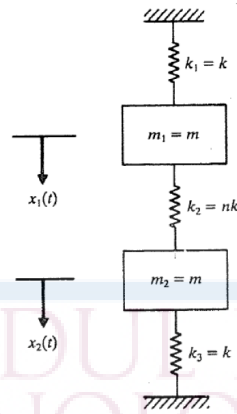

Fig. 3
18. Find the natural frequencies and mode shapes of a spring mass system shown in Fig. 3 , which is constrained to move in the vertical direction